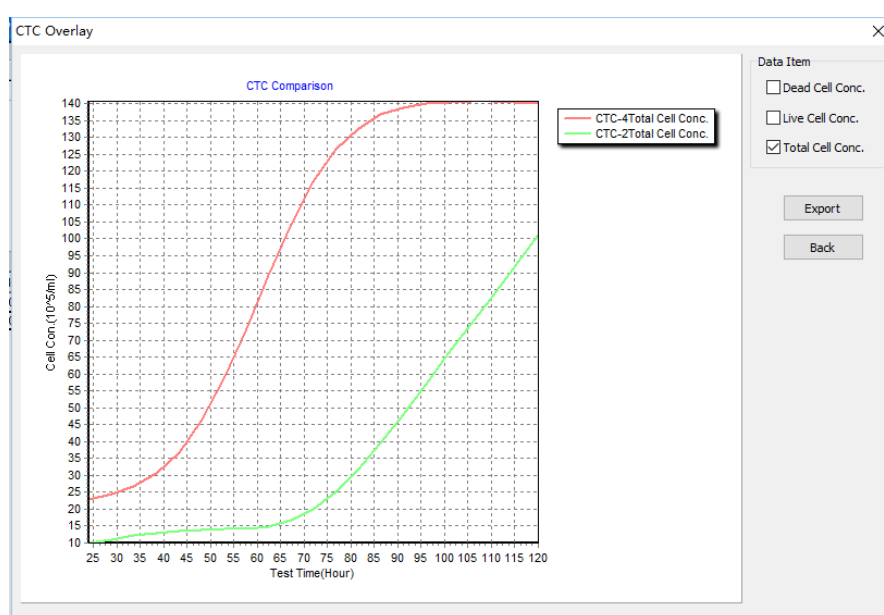

Figure 18: CTC Overlay
4. After finishing add CTC, click on **View** to see the overlay result like below. The **CTC Overlay** (Figure 18) can be exported into .pdf format by clicking on **Export**.